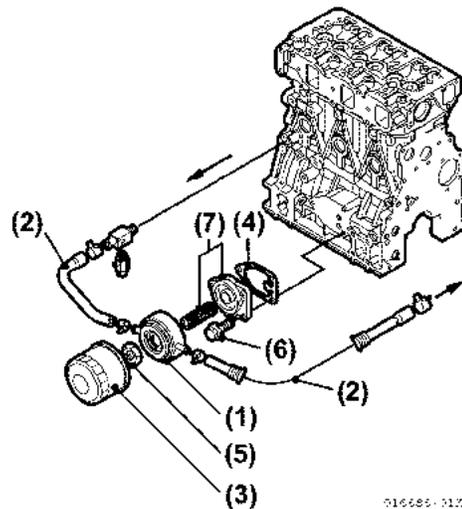
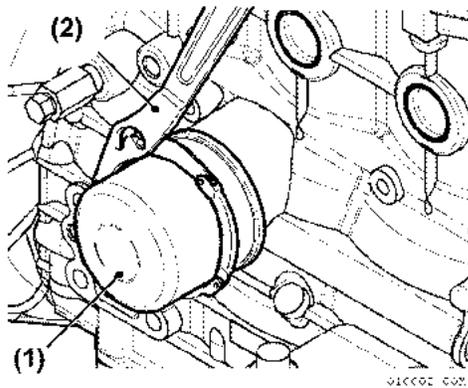

Figure 8-7
Figure 8-8
8. Turn lubricating oil filter (Figure 8-7, (3)) counterclockwise using a filter wrench (Figure 8-8, (2)) to remove from lubricating oil cooler (Figure 8-7, (1)).
9. Remove lubricating oil cooler nut (Figure 8-7, (5)) and lubricating oil cooler. Loosen bolts (Figure 8-7, (6)) for filter bracket and remove filter bracket (Figure 8-7, (7)).
14. Coat the new lubricating oil filter seal with lubricating oil and install the lubricating oil filter (Figure 8-8, (1)) manually turning it clockwise until the seal touches the mounting surface, and tighten it further to 3/4 of a turn using a filter wrench (Figure 8-8, (2)).